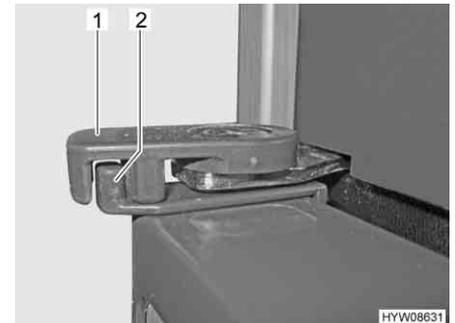

Fig. 66 Locking the refrigerator door in ventilation position
- Turn lock (Fig. 66,1) towards the centre of the refrigerator. Move the outer recess of the lock over the locking catch (Fig. 66,2). The refrigerator door will then stay slightly open.